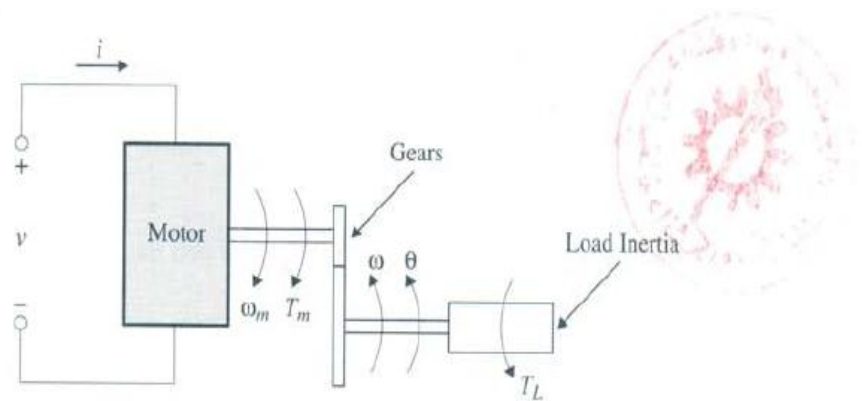

Figure 2.2 A dc servomechanism
**Description:** A dc motor with constant field is driven by application of a voltage to its armature terminals. Through a set of gears, the motor drives a load with moment of inertia  $J$ , subject to an external torque (see Fig. 2.2). The control objective is to keep the load angle at some desired value.
**Basic Principles:** The gear ratio  $N$  is the ratio of angles and velocities of the two shafts; the torques have the same ratio. The load shaft is the high-torque, low-velocity shaft. The torque  $T_m$  produced by a dc motor is given by  $T_m = k_1 \phi i$ , where  $k_1$  is a constant and  $\phi$  is the field intensity. The armature circuit has resistance  $R$  and inductance  $L$ , and the motion generates a back emf  $k_2 \phi \omega_m$ . It can be shown that  $k_1 = k_2$  in Système International (SI) units. The rotor of the dc motor has inertia  $J_m$ .